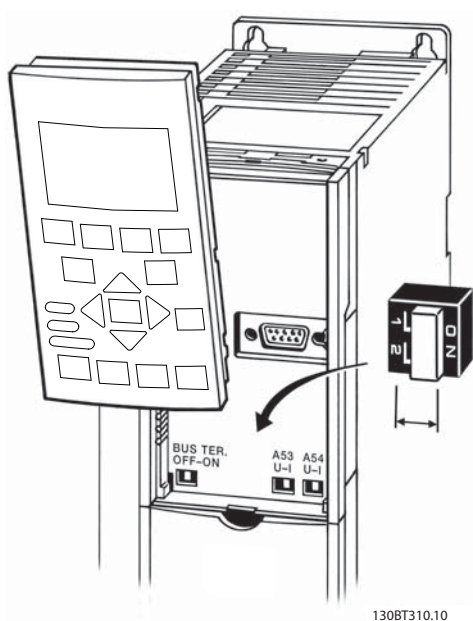

Figure 2.21 Location of Terminals 53 and 54 Switches
- The switches are accessible when the keypad has been removed (see *Figure 2.21*). Note that some option cards available for the unit may cover these switches and must be removed to change switch settings. Always remove power to the unit before removing option cards.